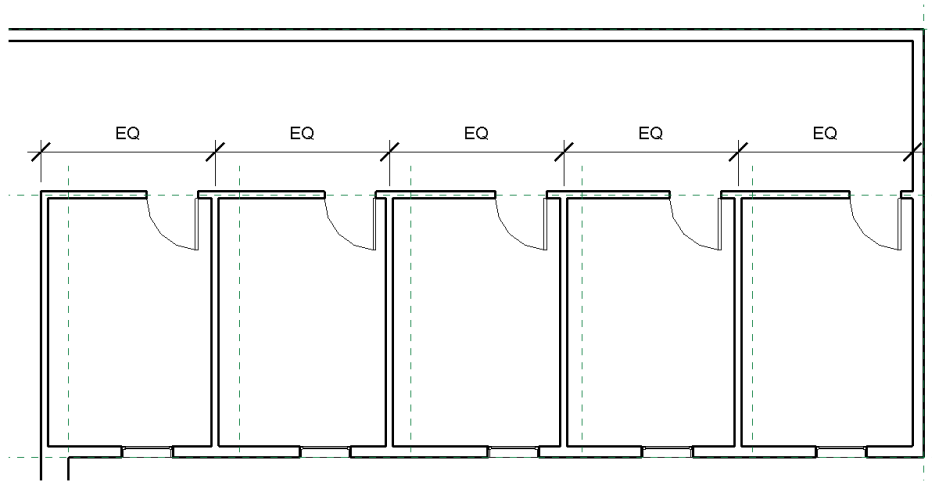

FIGURE 1.18 Doors equally spaced relative to the walls
10. Select the next door to the left and hover your mouse over the temp dim that appears. The tooltip lets you know you can edit this dimension. Click the blue text and type 2'-6" (.76m) into the text box. The door moves to the correct location. Follow these steps for the other doors. The results should resemble Figure 1.18.